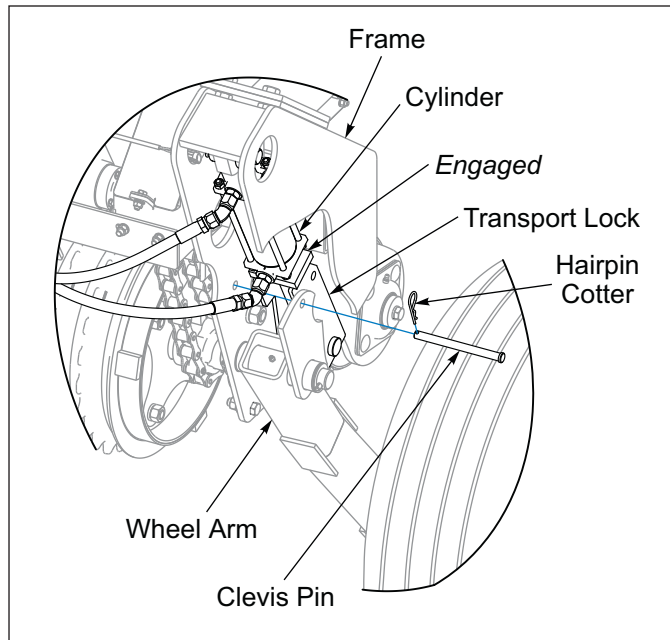

Figure 2-17: Transport Lock Engaged
6. Raise the Seeder and install Transport Locks. **See Figure 2-17.**